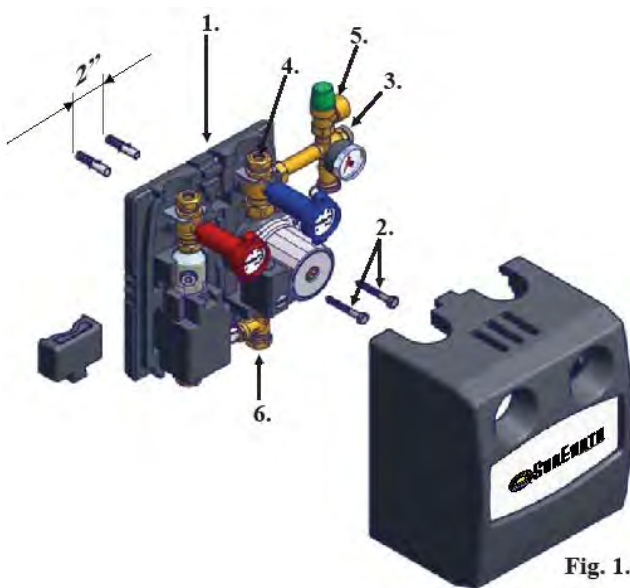

Fig. 1.
Mounting (Fig.1)
- Remove front insulation cover (5).
- The SunStation (Fig. 1) forms a unit with the wall bracket and the rear insulation cover, it is attached from the front with screws into a wall stud or with wall plugs and screws (2) into masonry wall or suitable load bearing structure.
- Once the wall bracket and rear cover (1) are secured to the wall, the module components can be replaced and secured with the two wire clips.
-Connect the safety assembly (3) (supplied separately with the module) to the outlet supply to collector fitting (4) above the pump using the 3/4" half union nut. The package accompanying the